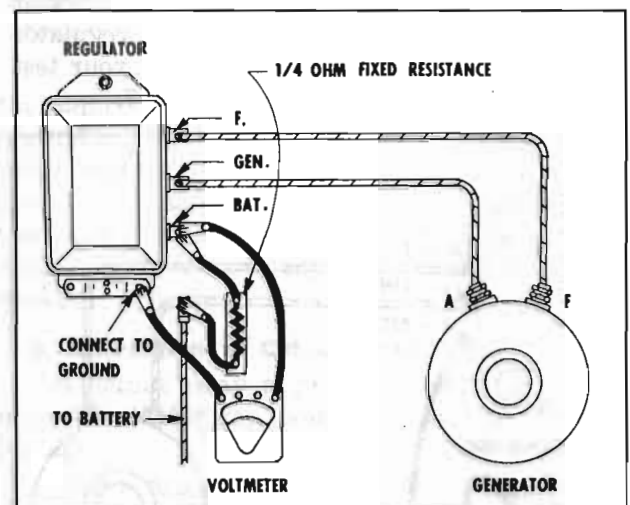

Figure 10-16—Testing Voltage Regulator
8. Shut off engine. Disconnect ammeter, then connect a  $\frac{1}{4}$  ohm resistor (approximately 25 watts) between "BAT" terminal and battery lead. See figure 10-16.